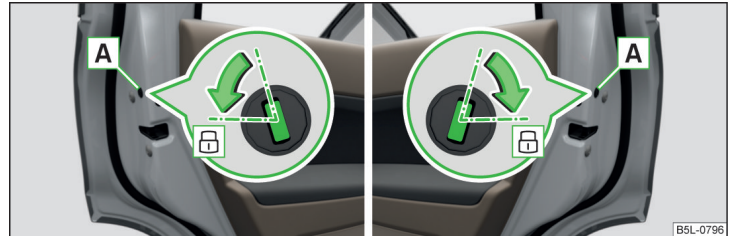

Fig. 196 Emergency locking: Left/right rear door
- › Remove the cover **A** » Fig. 196.